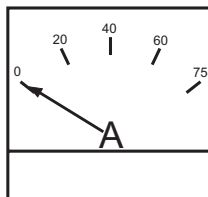

**Figure 34. Engine Speed Switch (low)**
14. The generator's voltage meter (Figure 34) displays the 120 VAC in **VOLTS**. If the voltage is not within the specified frequency tolerance, use the voltage adjustment control knob (Figure 35) to increase or decrease the desired voltage.